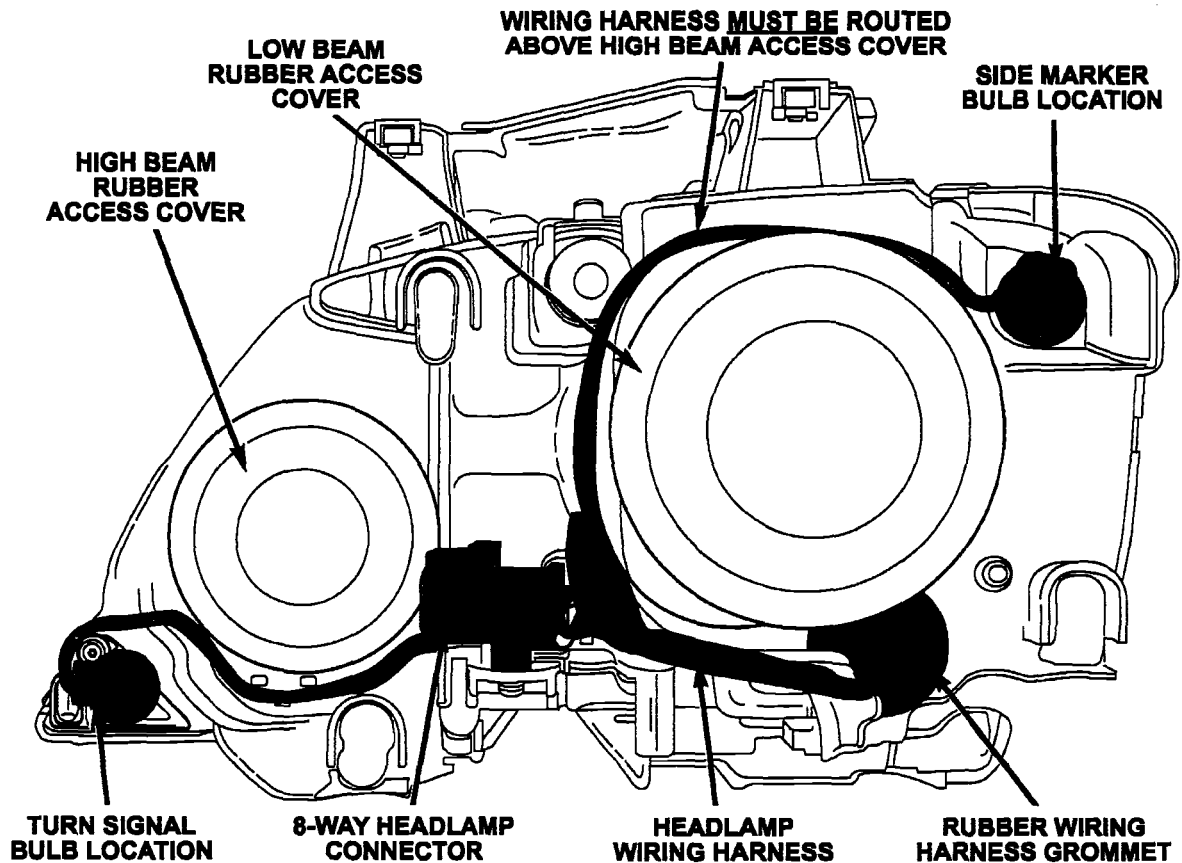

Figure 6
11. Install the new harness onto the headlamp assembly as shown in Figure 6.